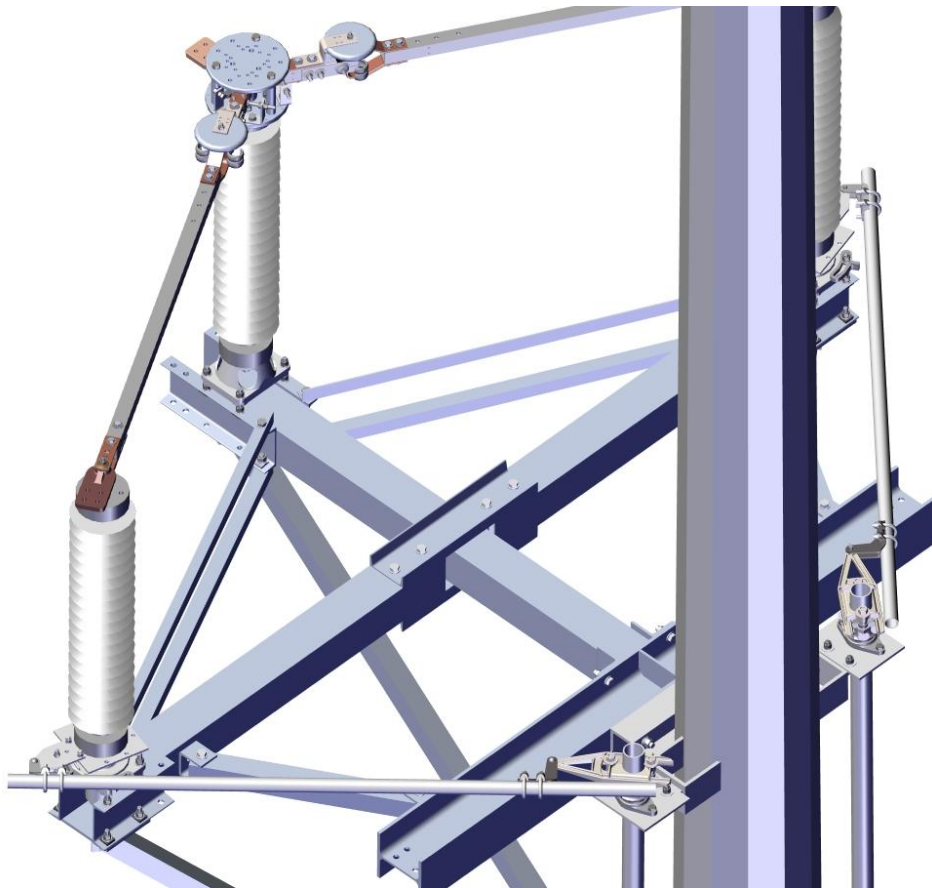

Figure 26: Typical Initial Setting.
- b) Set the adjustable arm on the top phase to the preliminary setting specified on the Operating Mechanism Drawing. See Figure 26.